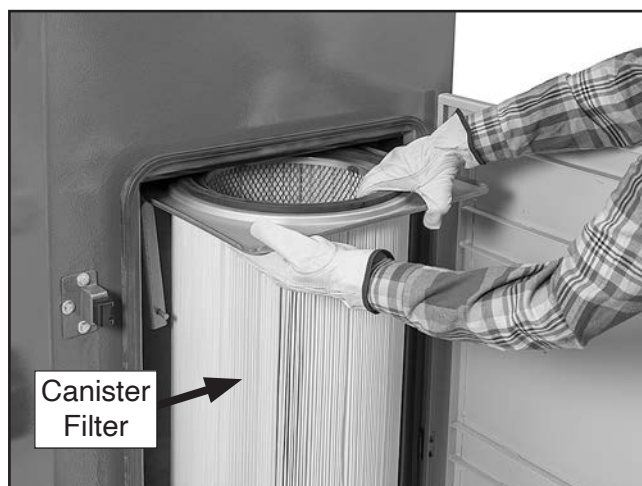

Figure 40. Removing canister filter.
5. Slide canister filter out (see **Figure 40**).